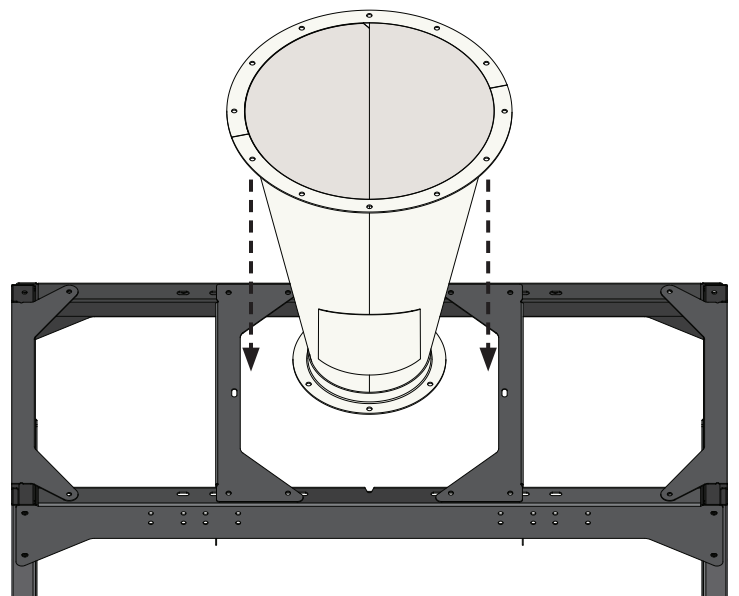

FIG. 3
Lift the Cone (D) onto the Stand (P), making sure to align the Cone's flange holes with those on the Stand [FIG 3].